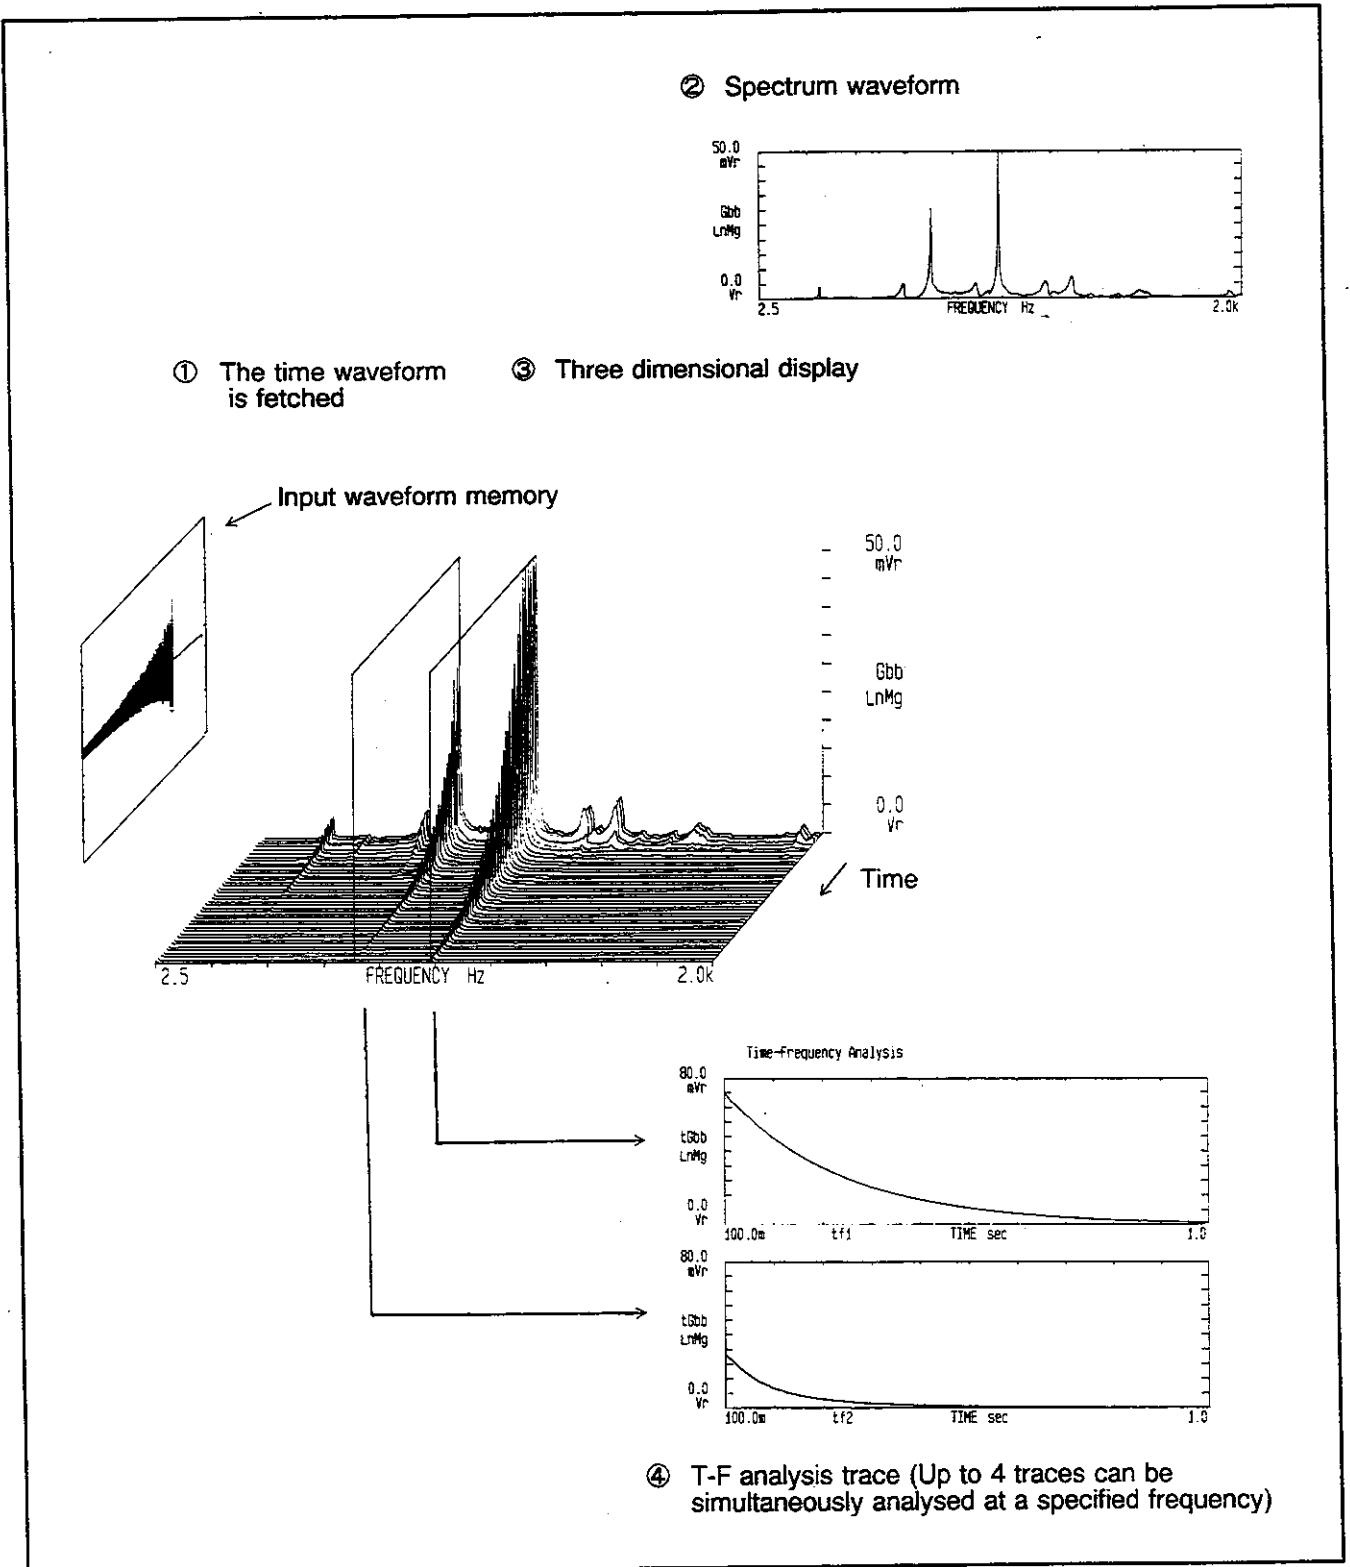

Figure 2-5 Concept of Measurement in the Time-frequency Analysis Mode
In the TF mode, a transient signal is recorded in the input waveform memory by using a trigger signal. (① in Figure 2-5)
- (1) One can observe the instantaneous spectrum of any portion chosen from the recorded waveform. (② in Figure 2-5)
- (2) Spectra can be displayed in three dimensions depending on the recorded waveforms. (③ in Figure 2-5)
- (3) The relationship between a specified frequency and time can be analyzed to obtain a transient signal damping characteristic (T-F analysis). (④ in Figure 2-5)